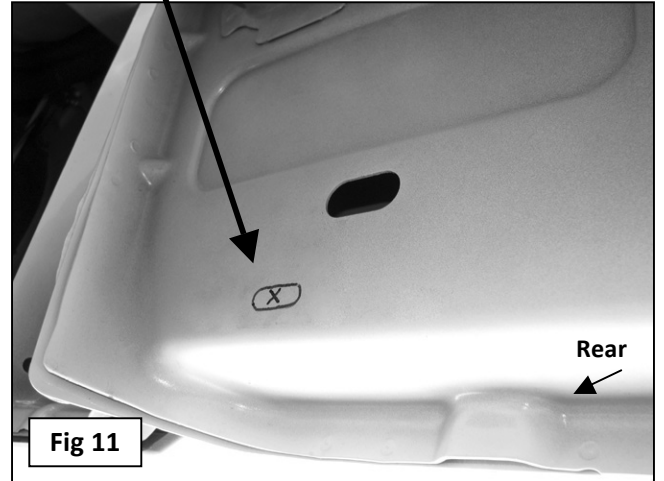
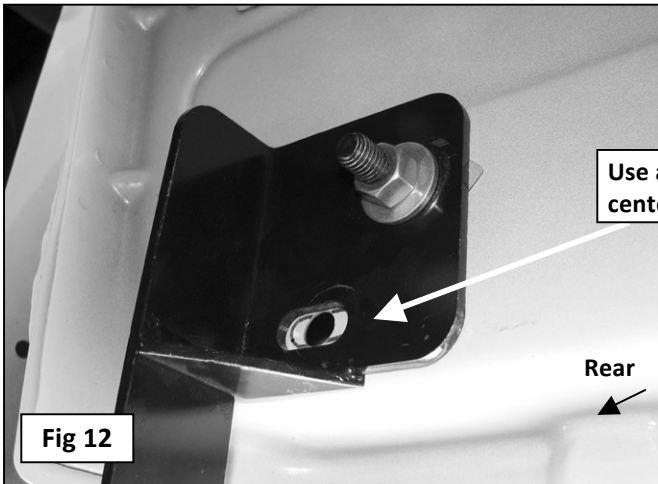
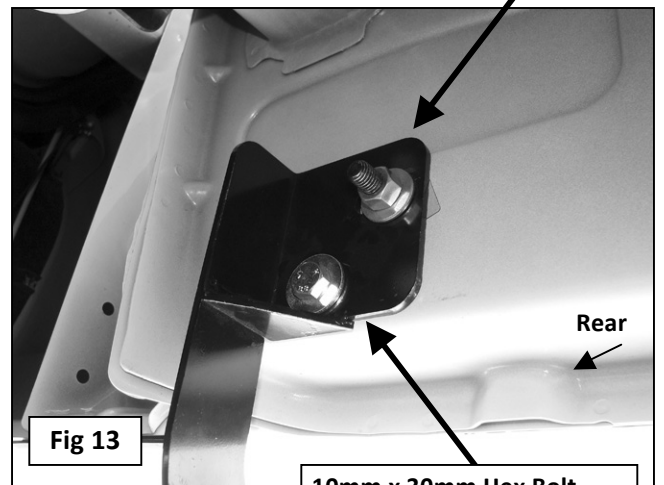

Fig 11
Fig 12
Fig 13
- a. Once **Step 6** has been completed, loosen the Hex Nut on the Bolt Plate and center the threaded end in the slot in the Bracket and the vehicle, **(Figures 8 & 10)**. Trace the open, unused slot in the bracket mounting plate onto the body panel, **(Figure 10)**. Remove the Rear Bracket and Bolt Plate, **(Figure 11)**. Mark the center of the slot. Carefully drill the location with a 7/16" drill bit, **(Figure 12)**. Reinstall the Bolt Plate and Bracket as previously described in **Steps 2 - 3 & 6, (Figure 13)**. Tighten all hardware.